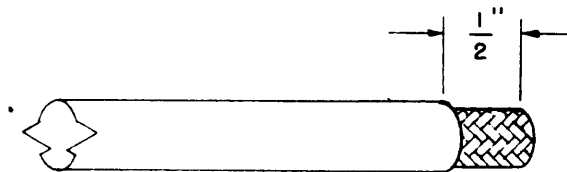

FIGURE 2
2. Remove 1/2 inch of cable outer jacket as shown in Figure 2. Be extremely careful not to nick braid.